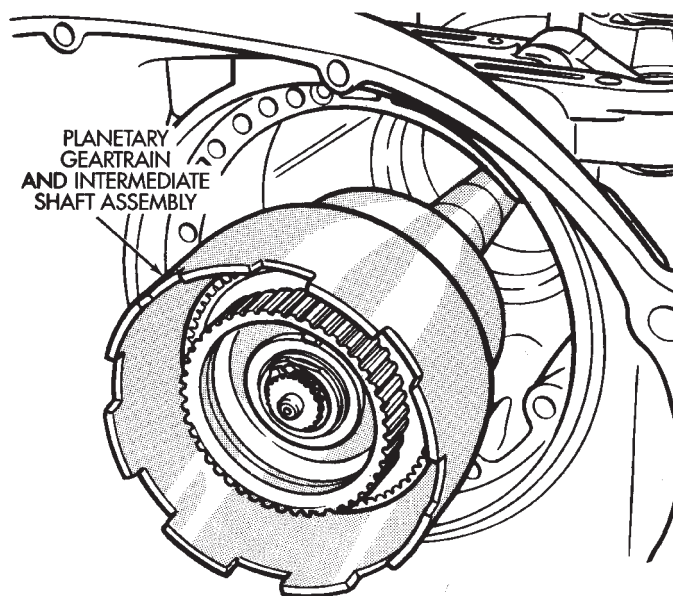

Fig. 152 Installing Planetary Geartrain
(17) Install planetary geartrain assembly (Fig. 152)